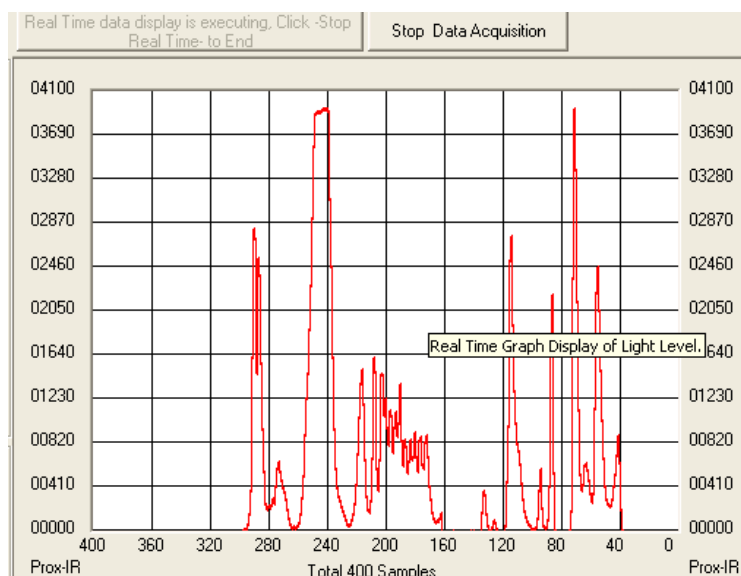

Figure 10. Graphical Real Time
- **Collect Data Graphical Real Time Data** - Allows you to sample data (whether ALS, IR, or Prox-IR). Samples are now being taken and are being plotted and appropriate values are displayed on the right in the corresponding box, see Figure 10.